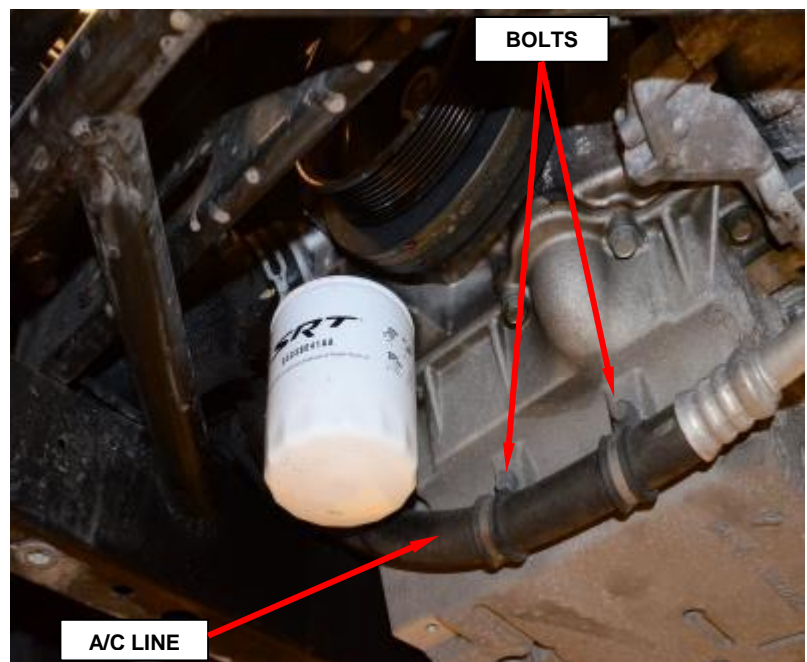

Figure 40 - A/C Line to Oil Pan
48. Remove the two bolts securing the A/C line to the oil pan (Figure 40).